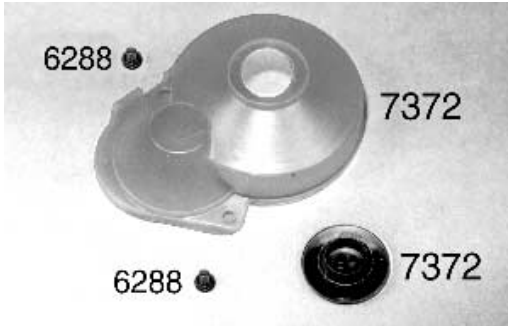

Fig. 159
□ **Figs. 159, 160 & 161** In the transmission bag you will find the bag containing the new #7372 T2 gear dust cover and black insert button. In the same bag you will find two #6288 4-40 x 1/4" BHSScrews. Trim the edge of the plastic gear cover so that it will fit over the motor plate. You will also need to trim the center hole for the black insert button. Now drill out the two mounting holes in the gear cover for the #6288 screws. Secure the cover to the motor plate with the #6288 screws and install the black insert button. Fig. 161 shows the button removed and adjusting the Associated Torque Clutch using a 1/4" nut driver.